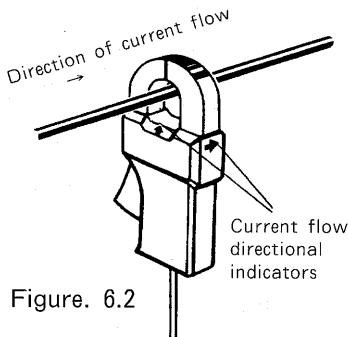

Figure. 6.2
- Clamp the sensor over the conductor noting the current direction marks (arrows) on the front and side panels of the clamp. These should be facing with the flow of current, or toward the load. (See Figure 6.2.)